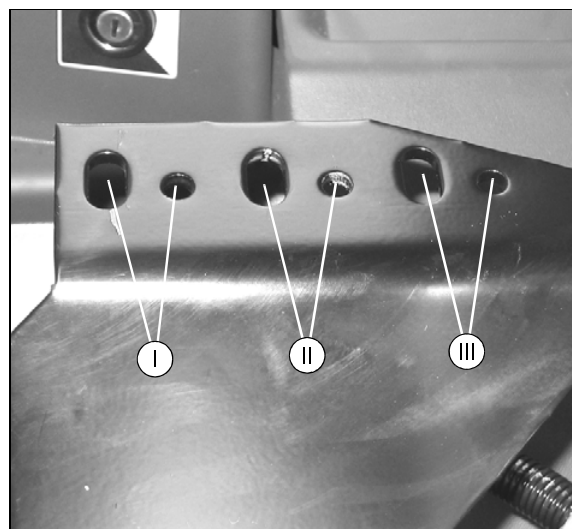

Fig. 8
3. Mount the swivel bearing with a washer (F) (3 mm) between the bracket and swivel bearing.
4. Mount the potentiometer with a guide pin in the hole in the bracket (G).
**IMPORTANT:** By adjusting the bracket (G), centre the potentiometer shaft with the swivel bearing shaft (L), leaving a clearance (K) of 1 mm between the shaft ends (check with a 1 mm bit).
5. Mount the ball joint pin with a spacer (N) (1.6 mm) at the swivel bearing.
8. Pull the wires (P) over the potentiometer and use strips to prevent them from coming into contact with the ball joint and swivel bearing.
**Note:** The armrest can be adjusted lengthwise by fitting it in one of three pairs of holes (Fig. 8). Adjust laterally using the screw (A) (Fig. 3). Adjust the inclination at the screw (T) (Fig. 4). Adjust the position of the lever using the Allen screw (U) (Fig. 4).